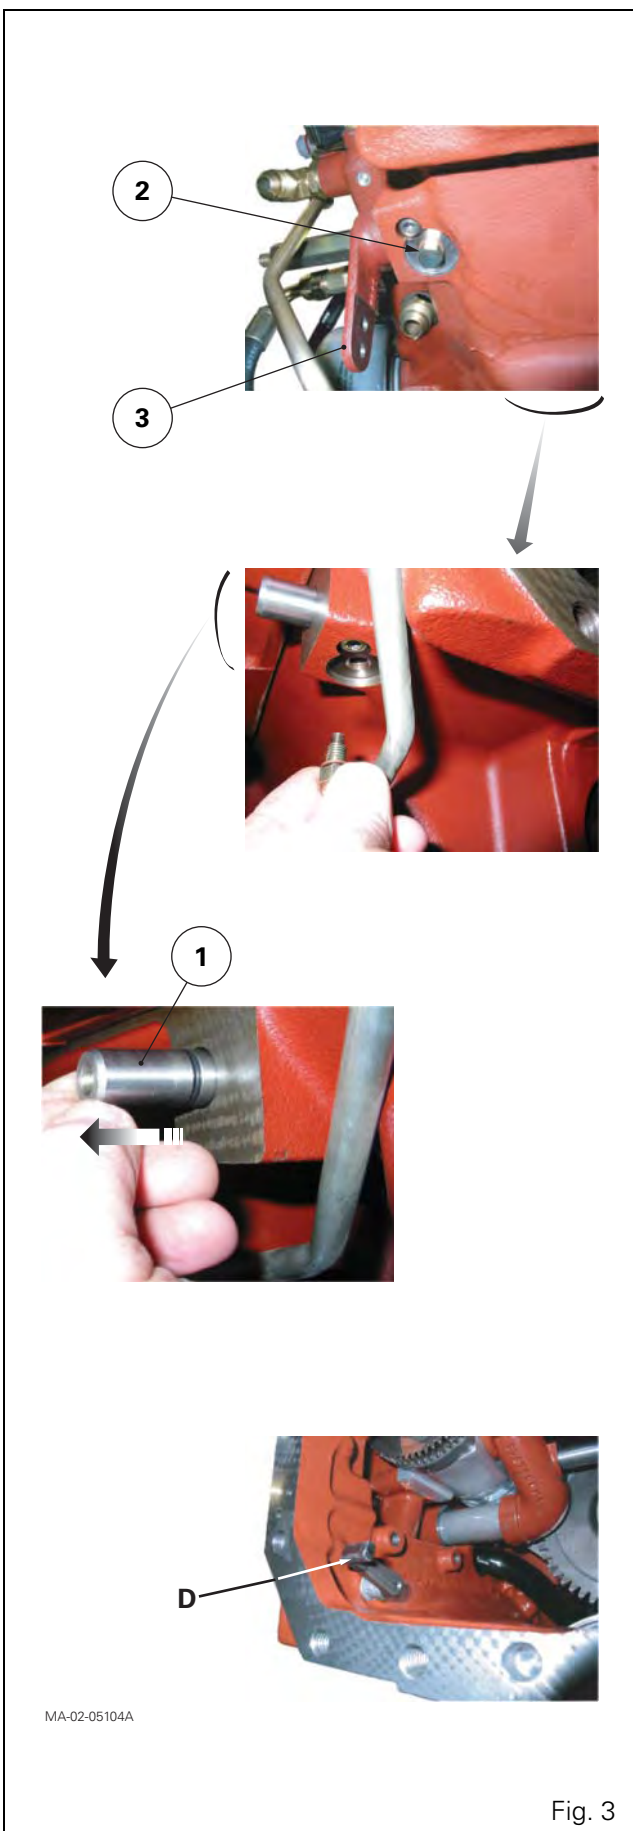

Fig. 3
10. On tractors fitted with a creeper or super creeper unit (Fig. 3), carry out the following operations.
- Remove the rod (3) (if necessary).
- Remove the screw (2).
- Pull the pin (1) outwards in order to free the "D" finger of the final drive fork.